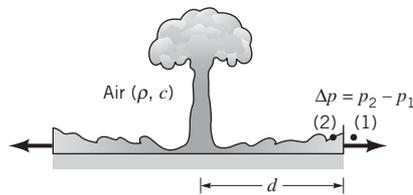

FIGURE P7.35
**7.35** The pressure rise,  $\Delta p$ , across a blast wave, as shown in Fig. P7.35 is assumed to be a function of the amount of energy released in the explosion,  $E$ , the air density,  $\rho$ , the speed of sound,  $c$ , and the distance from the blast,  $d$ . (a) Put this relationship in dimensionless form. (b) Consider two blasts: the prototype blast with energy release  $E$  and a model blast with 1/1000th the energy release ( $E_m = 0.001 E$ ). At what distance from the model blast will the pressure rise be the same as that at a distance of 1 mile from the prototype blast?